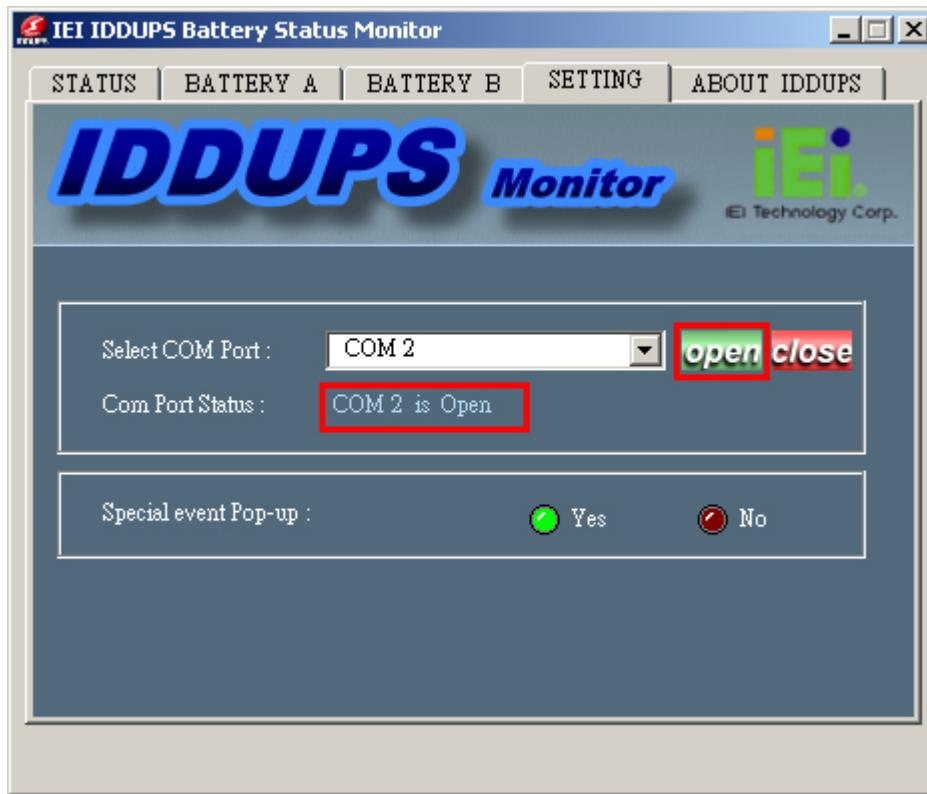

Figure 5-4: Activate the Connected Serial Port
Step 6: Press **open** to activate the selected serial port. The Com Port Status on the application shows the selected COM port is open (**Figure 5-4**).